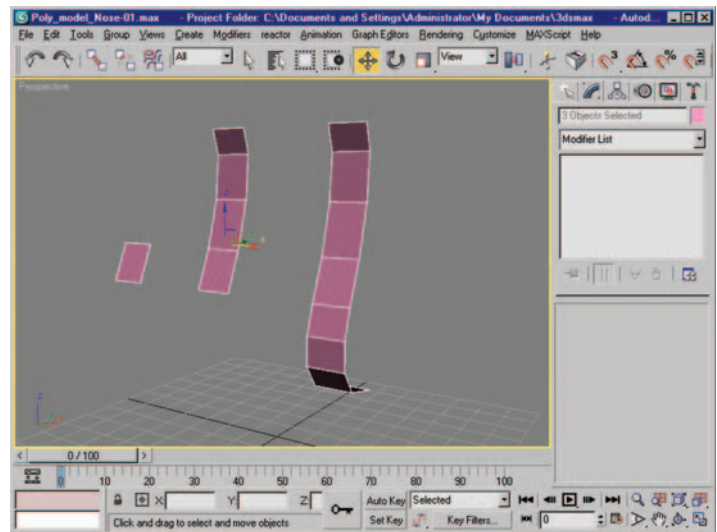

Figure 3.9 Initial polygon and resulting mesh after the shift–drag process.
1. Start by dragging out a single plane object in the front viewport. Give it one length and one width segment and convert the plane to an Editable Poly object (Figure 3.9).
Switch to the left viewport and use the shift–drag technique at the Edge subobject level to create some new polygons, creating the profile of a nose as you clone your edges. In my example you will see I dragged out three new, evenly sized polygons above our initial polygon (Figure 3.9, middle mesh).
3. Next, repeat the process we just used, only this time using the bottom edge of your original polygon to shift–drag four relatively equal-sized polygons curving under to form the bottom of the nose. Figure 3.9 shows the initial polygon and the resulting mesh after shift–dragging